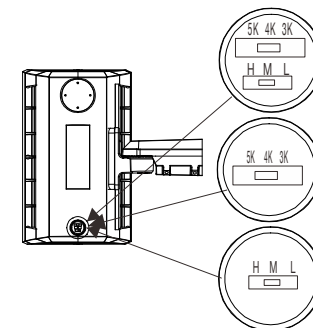

Figure 18
- STEP 2:** After adjusting the required control function, tighten the metal plug clockwise (FIGURE 18)